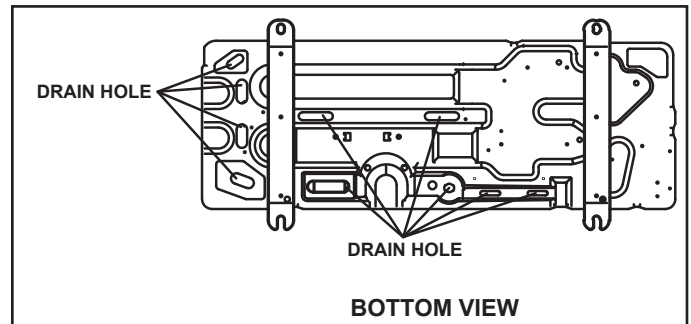

Figure 3. Factory-Provided Drains
- The bottom of the outdoor unit is equipped with multiple drain holes to route water away from the unit during a defrost cycle. See figure 3.